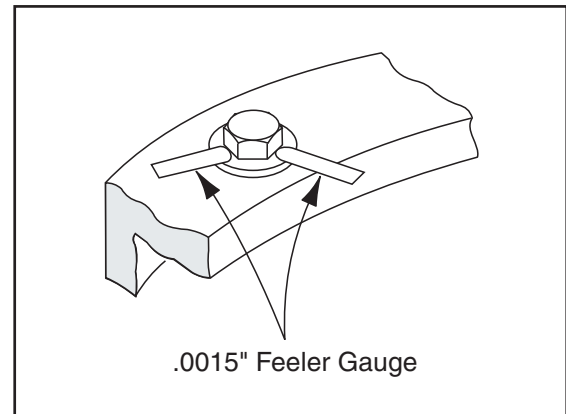

Figure 3-3. Swing Bearing Bolt Feeler Gauge Check
2. At the positions indicated on Figure 3-3., Swing Bearing Bolt Feeler Gauge Check, try and insert the 0.0015" feeler gauge between the bolt head and hardened washer at the arrow indicated position.
4. At the position indicated on Figure 3-3., Swing Bearing Bolt Feeler Gauge Check, try and insert the